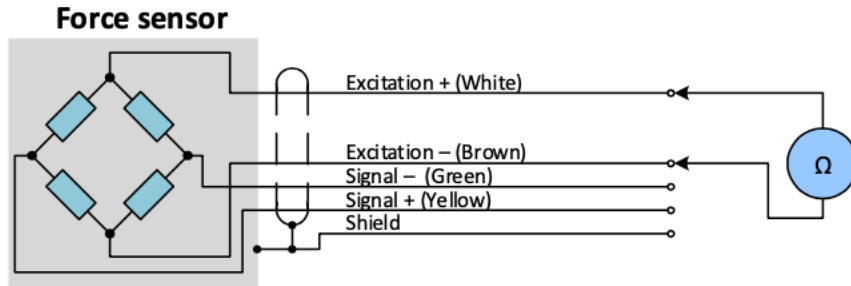

Fig. 11. Measurement of the resistance of the sensor
4. Check sensor resistance. The resistance of the sensor is measured by an ohmmeter connected to the sensor wires - fig. 11. The exact value of the resistance should be seen in the datasheet of the sensor. Usually it is in the range from 350 to 400  $\Omega$ . If the sensor resistance is significantly lower, the signal conditioner is overloaded and the supply voltage may drop as a result. It is a sensor error. If the sensor resistance is within tolerance and the supply voltage is still reduced, the fault is in the signal conditioner. The input resistance must be measured between the Exc + and Exc - wires and also the output resistance, e. g. between the Signal + and Signal - wires. In fig. 11 only the measurement of the input resistance is plotted.